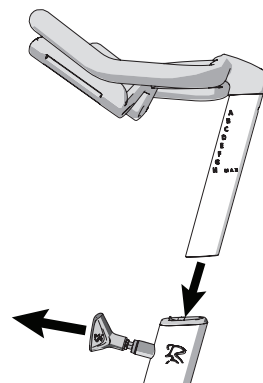

Figure 10
3. Pull out the handlebar adjustment pop-pin and slide the handlebar post into the bike frame (Figure 10). Release the pop-pin to lock the handlebar post into place.